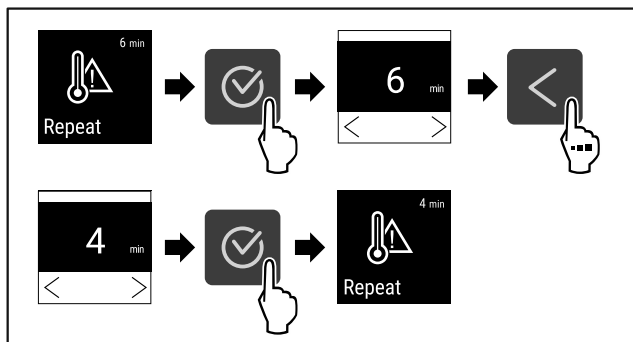

Fig. 129
- ▶ Complete steps (see Fig. 129).